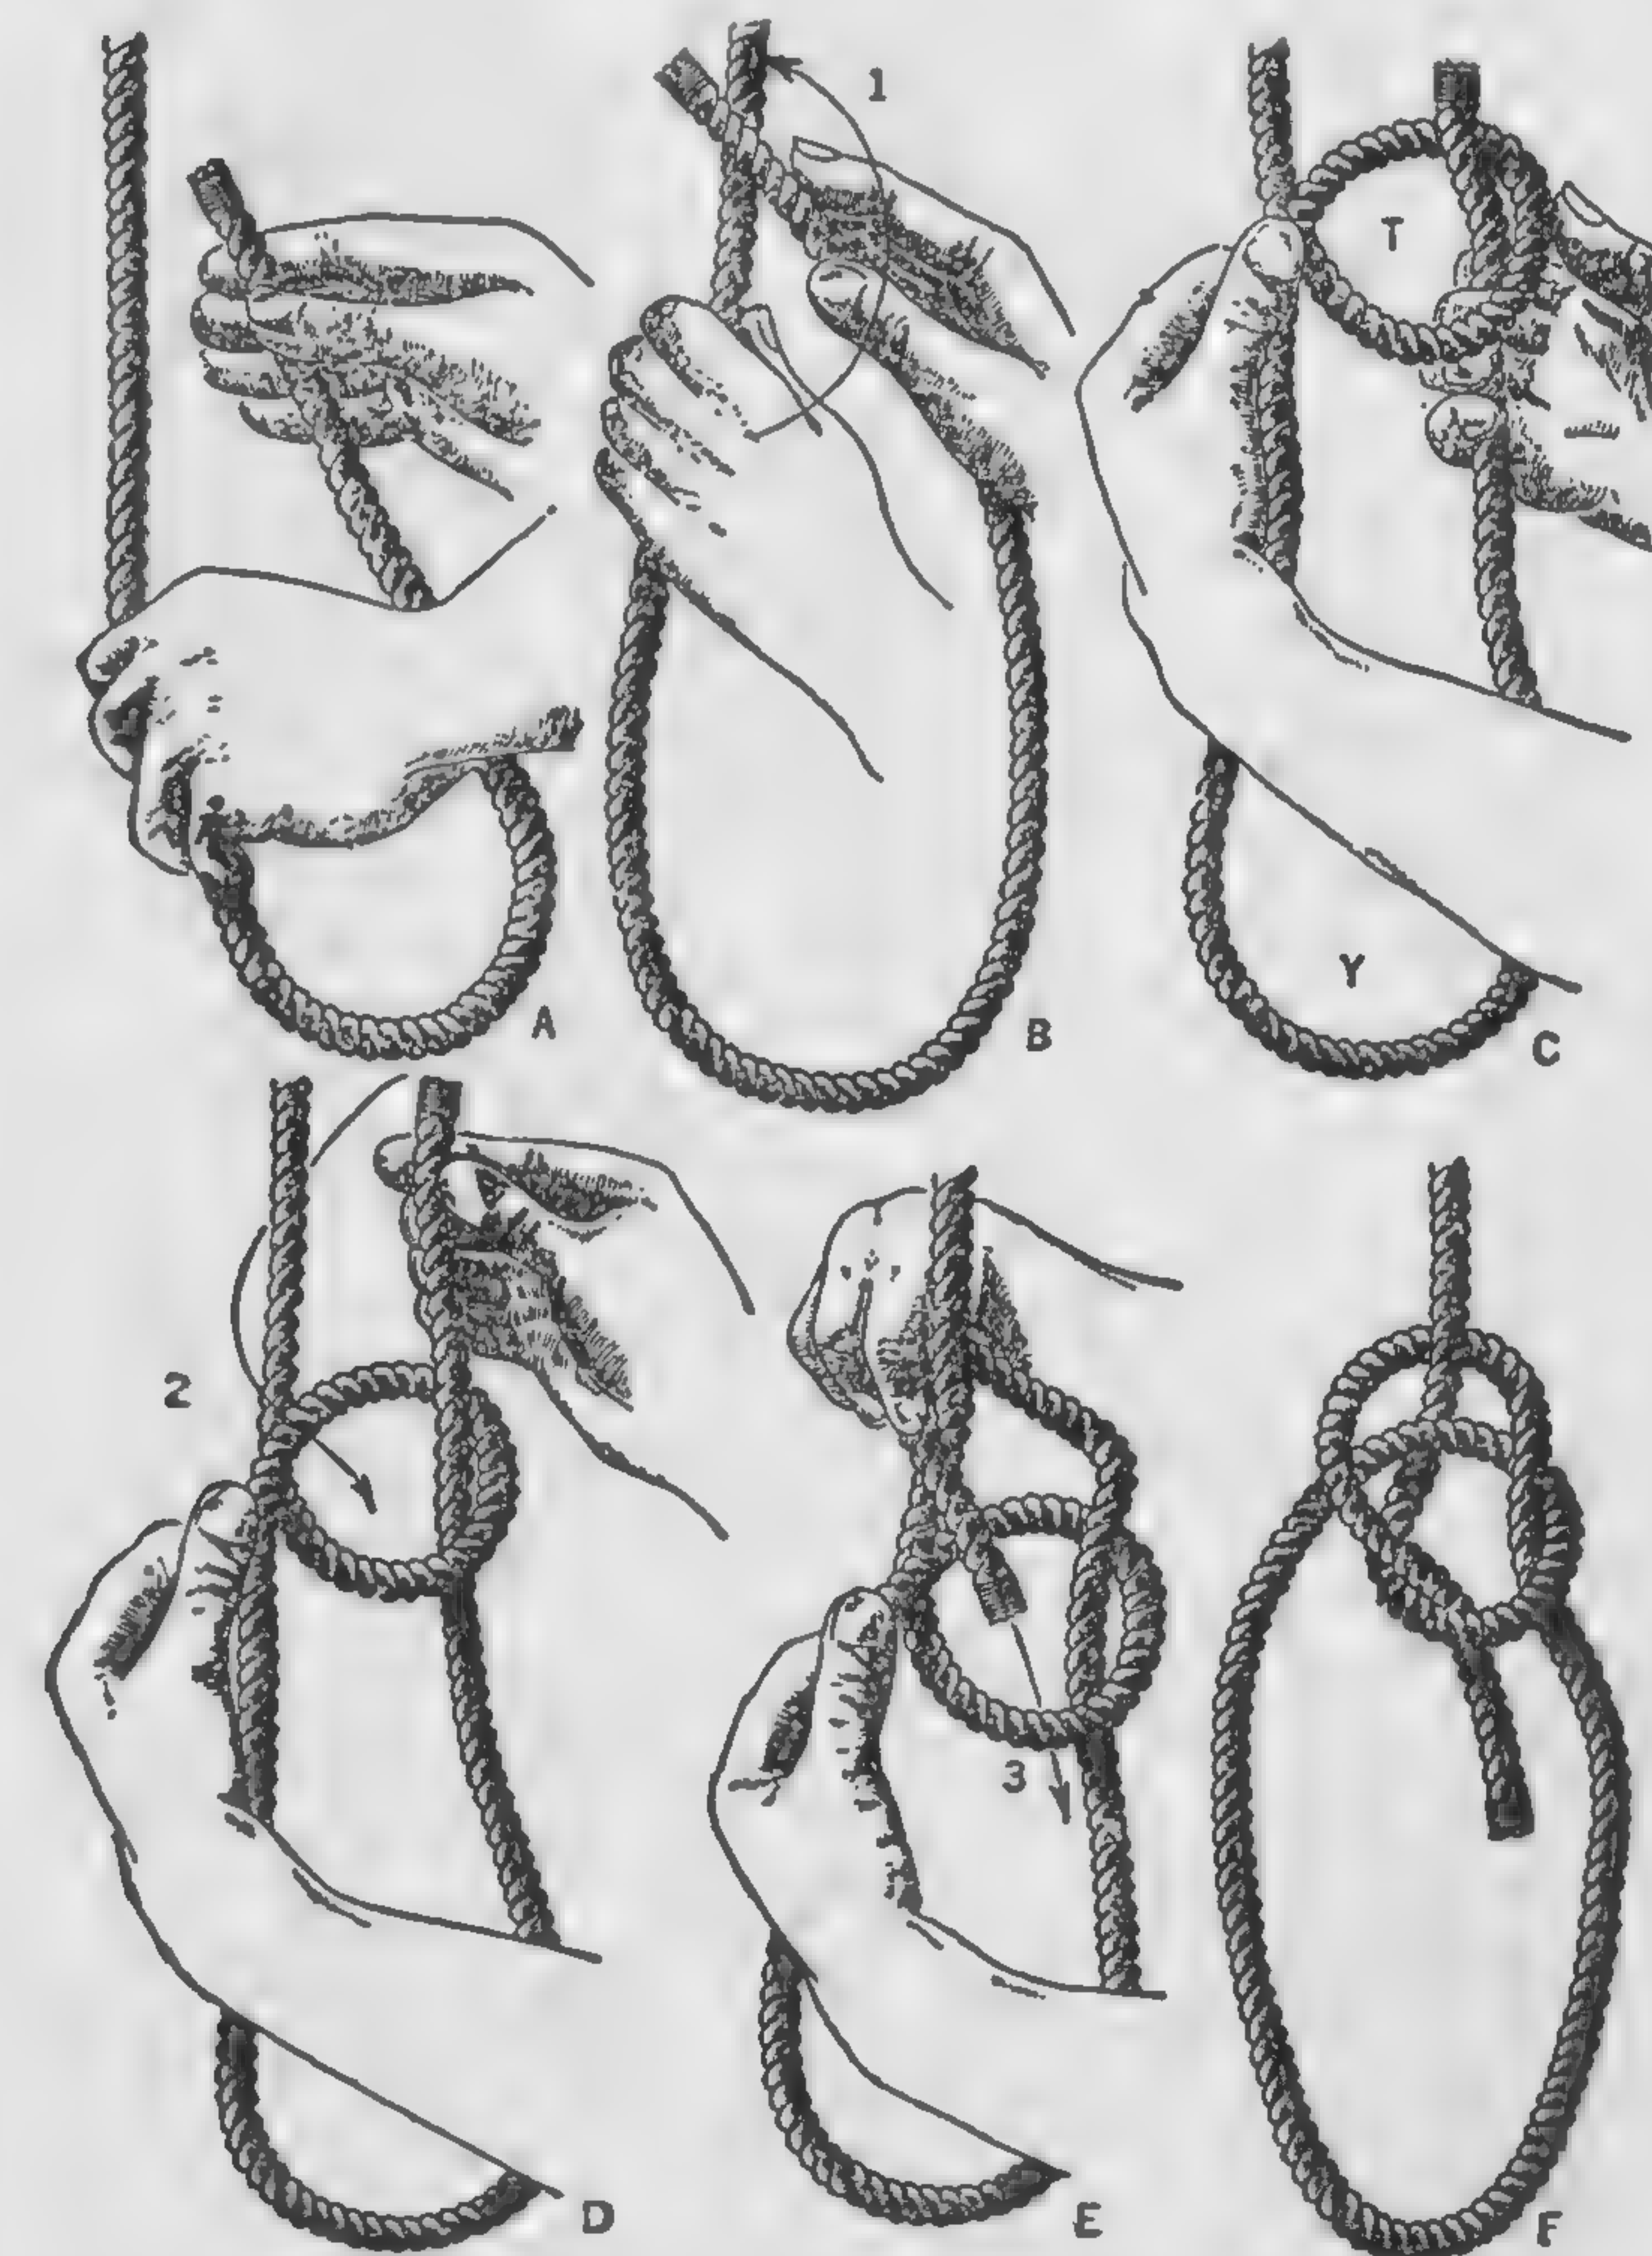

Fig. 8
Single Bowline at End of Rope, Not Attached to Object. This knot is used for attaching a rope to the hook of a block or joining the ends of ropes of different sizes. See Fig. 8.
6. Draw all parts down tight. The completed knot is shown at *F* in Fig. 8.
1. The operations required in making this knot are identical with the single bowline, not attached to an object, with one exception; that is, in step *D* in Fig. 8, the part with which the knot is completed is not a free end but a part of the rope doubled back in a bight.